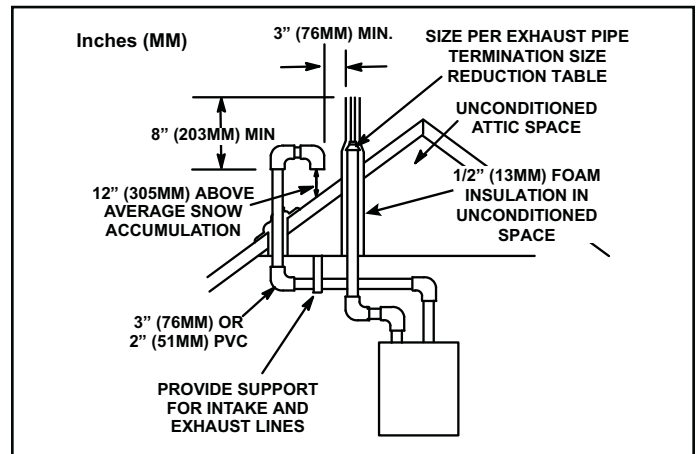

Figure 35. Direct Vent Roof Termination Kit
Position termination according to location given in Figure 35 and Figure 42. In addition, position termination so it is free from any obstructions and 12" above the average snow accumulation.
Intake and exhaust pipes may be routed either horizontally through an outside wall or vertically through the roof. In attic or closet installations, vertical termination through the roof is preferred. Figure 35 through Figure 42 show typical terminations.
3. On roof terminations, the intake piping should terminate straight down using two 90° elbows (See Figure 35).